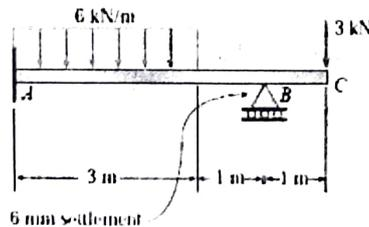

Fig.Q3
- Q3. A rectangular plate in *biaxial stress* (see Fig.Q3) is subjected to normal stresses $\sigma_x = 67$ MPa (*Tension*) and $\sigma_y = -23$ MPa (*Compression*). The plate has dimension $400mm \times 550mm \times 20mm$ and is made of steel with $E=200MPa$ and Poisson's ratio $\nu = 0.30$.